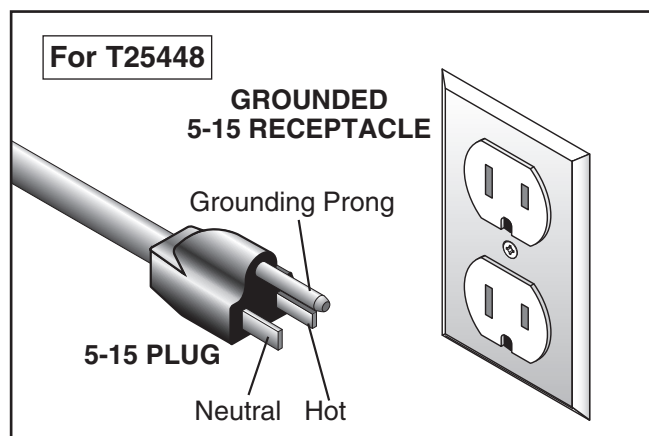

Figure 2. NEMA 5-15 plug and receptacle for Model T25448.
2. Plug the switch box into the proper power receptacle (see **Figures 2–3**).